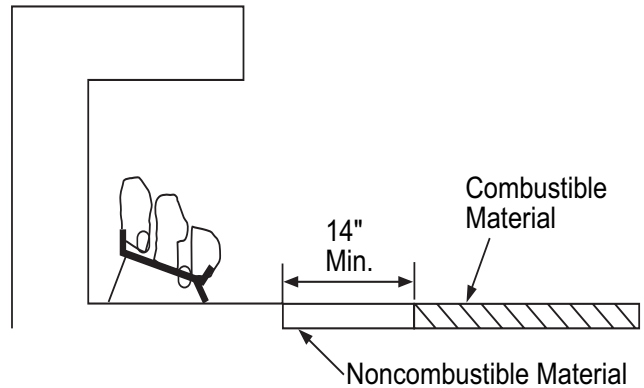

Figure 6 - Minimum Fireplace Clearances If Installed at Floor Level
- A. If installing appliance on the floor level, you must maintain the minimum distance of 14" to combustibles (see Figure 6).